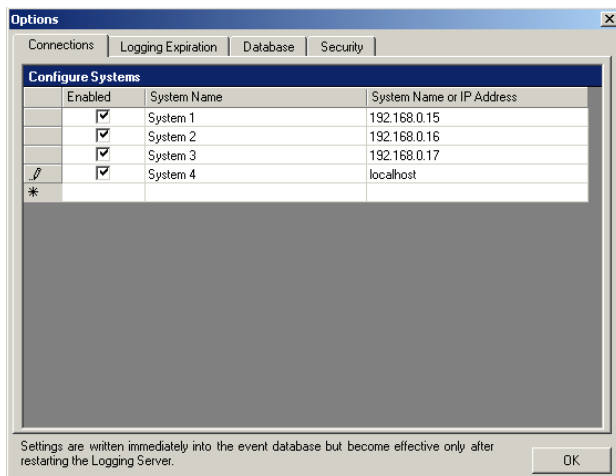

figure 56.7: Add a system (2)
- 2 Click the *System Name* field and enter the name of the system to which the *Logging Server* must connect. The name may consist of up to 16 characters. For example, *System 4* (see figure 56.7).